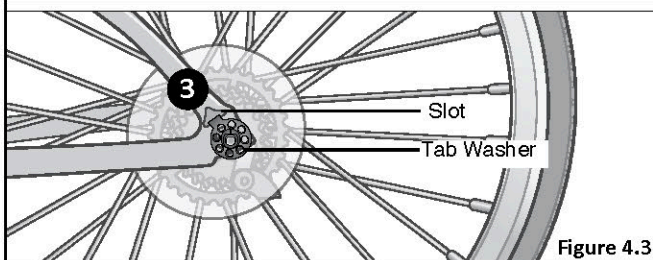

Figure 4.3
3. Place the tab washer on the axle. Fit the tab into the slot on the bicycle frame dropout. **Note:** If your bicycle frame doesn't have a slot in the dropout, rotate the tab to fit into the axle slot. **Figure 4.3**